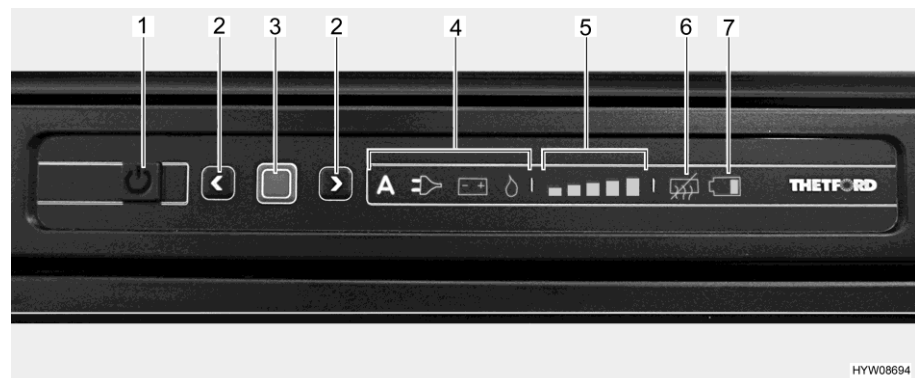

Fig. 149 LED operating panel (Thetford refrigerator)
- Press and hold the On/Off button (Fig. 149,1) for 1 second. The button lights up green. To save energy, after approximately 10 seconds the display is dimmed.
- Press confirmation button (Fig. 149,3). The operating mode previously selected is displayed.
- Press and hold the confirmation button (Fig. 149,3) for about 2 seconds. The operating mode symbols flash.
- Manual power selection: use the arrow keys (Fig. 149,2) to select the desired energy source.
- Automatic power selection (only version with automatic power selection): use the arrow keys (Fig. 149,2) to select the operating mode "A".
- Confirm your selection with the confirmation button (Fig. 149,3).
- Press confirmation button (Fig. 149,3) again. The cooling level indicator (Fig. 149,5) flashes.
- To change the setting, press the arrow keys (Fig. 149,2) until the desired setting is displayed.
- Press and hold the On/Off button (Fig. 149,1) for about 2 seconds. All lights go out. Refrigerator is switched off.
After switching it on, the refrigerator automatically selects the previously selected thermostat position. This position can be adjusted manually by using the arrow keys (Fig. 149,2). It takes a few hours till the refrigerator reaches its normal operating temperature. When changing over to another operating mode, the thermostat setting is kept.